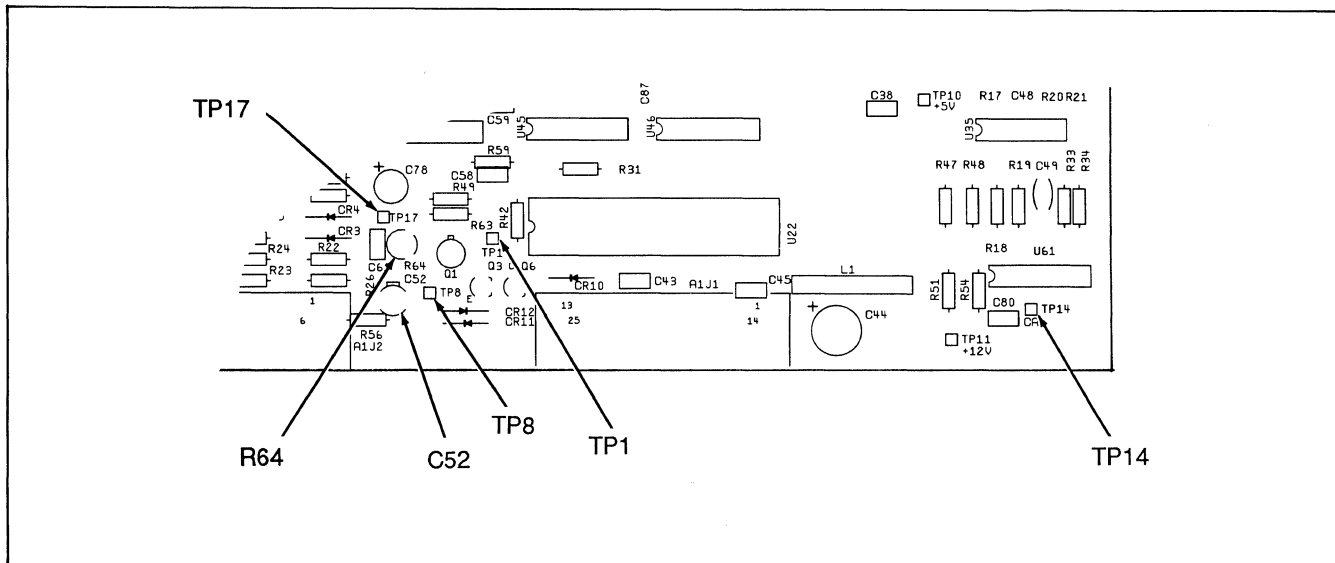

Figure 4-7. Probe Component Test Points and Adjustments
if necessary. Refer to Figure 4-7 for test point locations.
- Adjust C52 (shown in Figure 4-7) to obtain best wave, i.e., square corners with minimum over or undershoot.
6. Adjust C51 and C52 (shown in Figure 4-7) to obtain best wave, i.e., square corners with minimum over or undershoot.